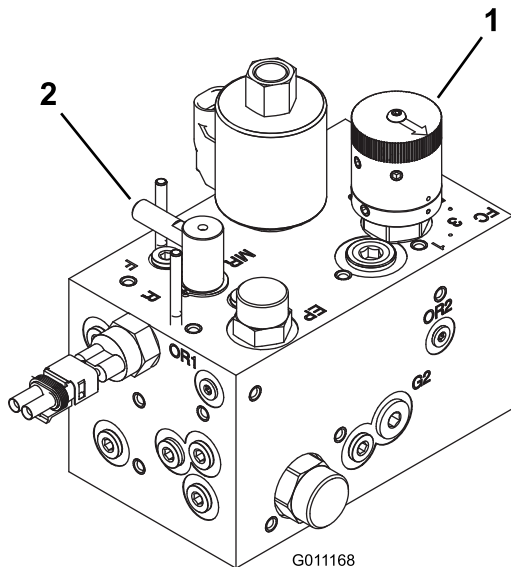

Figure 50
3. Turn the reel speed control knob (Figure 50) to the reel-speed number determined in Step 1.